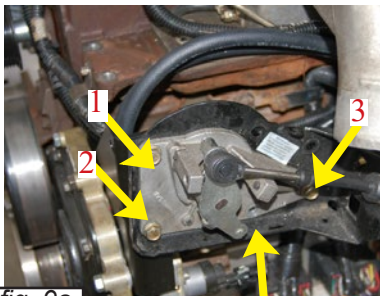

fig. 9a
- 9)* Secure **transmission kickdown** by bolting the **#12a transmission kickdown bracket** with the **#13b transmission kickdown support bolt** (fig. 9a), and secure the **#13a transmission kickdown support** as shown (fig. 9b). Use the longer **#13b bolt** on **Arrow 3**, and secure the other end of **#13a** with the longer bolt from **#12b** in step 8 (**Arrow 4**).